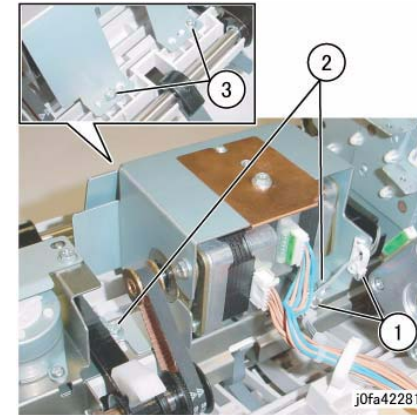

Figure 4 Removing Screws
11. Remove the screws securing the Eject/Set Clamp Motor Assembly (Figure 4):